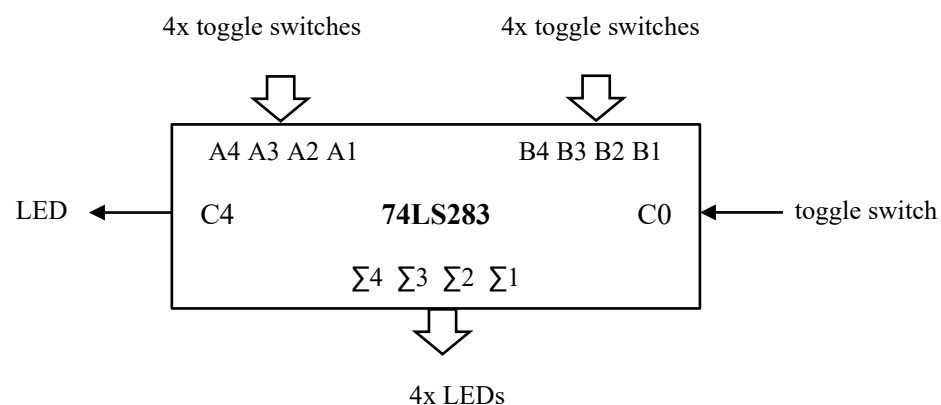

Figure 3: 4-bit binary adder with toggle switches and LEDs connected
- 5.1.1 Figure 3 shows the experiment setup. Refer to steps 1-6 of Lab 2 circuit connection guide.pdf for a pictorial guide.